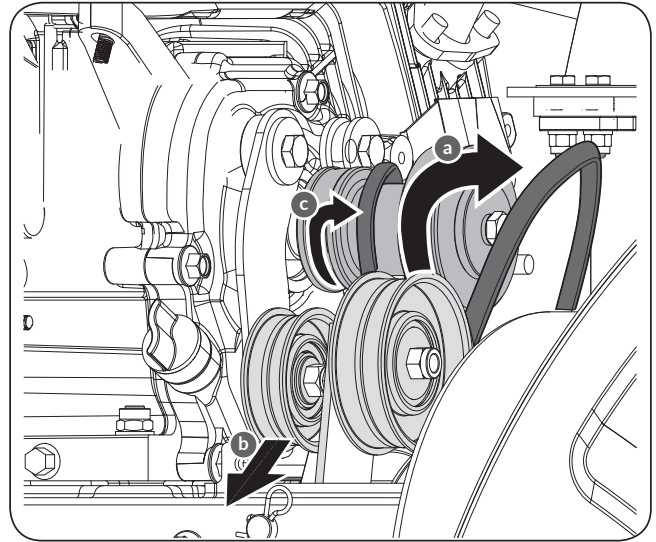

Figure 21a
- b. Pivot the idler pulley toward the right to relieve tension. (See **Figure 21a**)
- c. Lift the drive belt off engine pulley. (See **Figure 21a**)